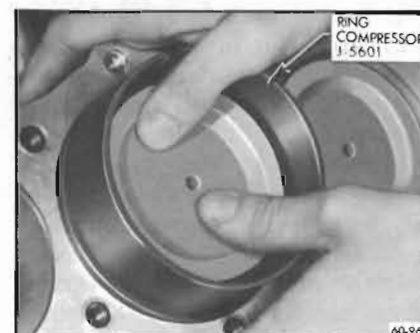

Figure 60-96—Installing Piston With Compressor Installed
8. Install piston rings as shown in Figure 60-96. Position expander ends over piston pin. Install oil ring rail spacer, and oil ring rails. Position gaps in rails "up" on same side of piston as oil
13. Lubricate the piston and rings and install in bore by compressing the rings either with a "wrap around" compressor or a split ring type such as shown in Figure 60-96.